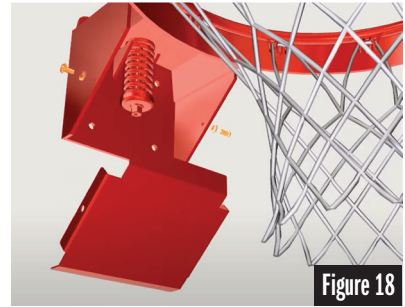

Figure 18
**STEP 11:** Remove the Rim Cover Plate from the underside of the Rim (Part I). See Figure 18.